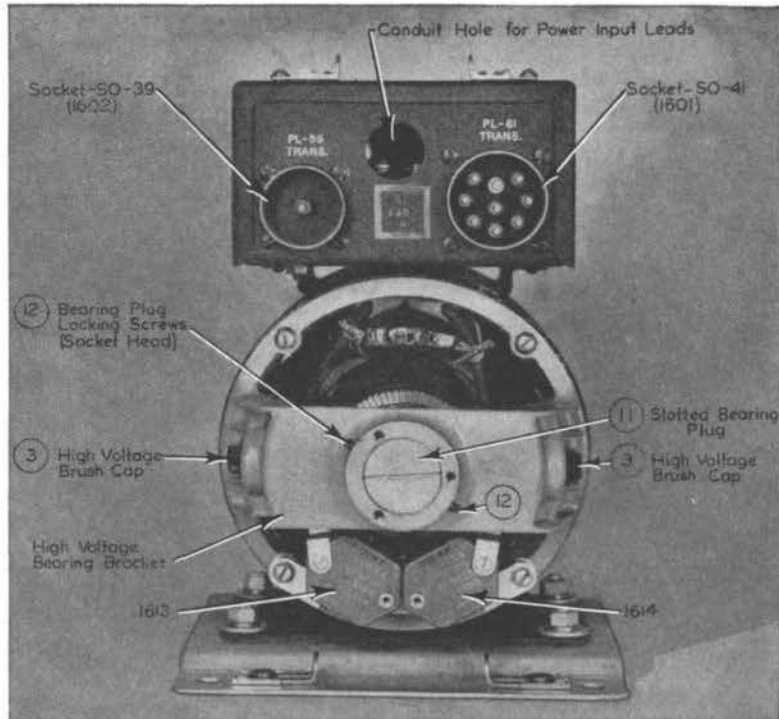

Figure 66. Liaison Dynamotor High Voltage End Bell Removed
- (6) End Play Adjustments: A spanner screw or bearing plug (11) Figure 66, bearing bracket for adjusting end play in the dynamotor. This is properly adjusted at the factory and ordinarily will not need to be changed unless the armature is replaced. Before making any adjustments with this screw, it is necessary that the two set screws, (12) on either side of the bearing be loosened. Then the spanner screw, (17) should be turned out (counter-clockwise) one turn. Operate the dynamotor until it is hot (about 30 minutes). The end play should then be adjusted by turning the spanner screw as required until the end play as shown on an indicator reading to 1/1000 inch, is between approximately 4/1000 to 8/1000 inch.
the brush to secure a good fit against the commutator. When inserting the grease filler plug (13) Figure 66, in the top of the bearing bracket, start the screw threads by hand before using a screw driver. Take care not to cross thread this screw. If the screw is cross threaded, metal particles may be dropped into the bearing, causing roughness and probably bearing failure.